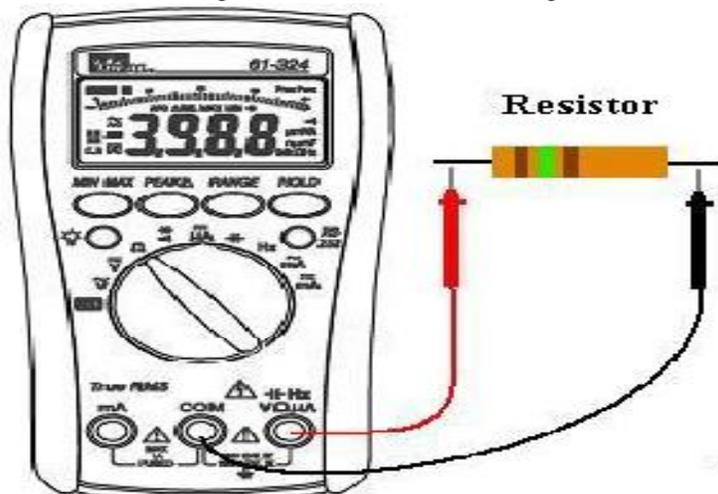

Figure 2.7: Resistance Measurement
- ✓ Touch the test probe tips across the circuit or component under test. It is best to disconnect one side or the entire component under test as shown in Figure 2.7, so the rest of the circuit will not interfere with the resistance reading.